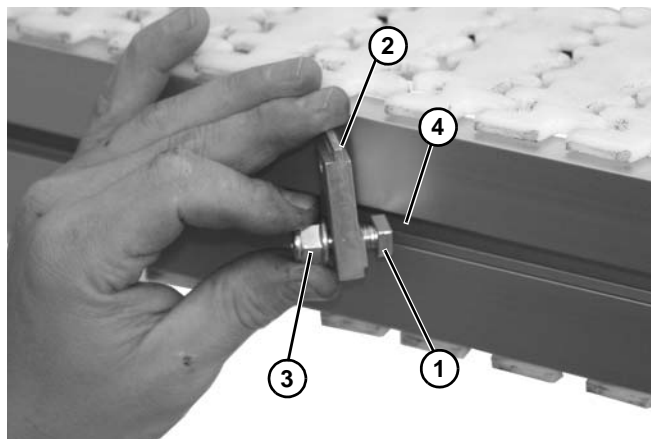

Figure 75
1. Install stud (Figure 75, item 1) onto retaining clip (Figure 75, item 2) with nut (Figure 75, item 3).
2. Install stud (Figure 75, item 1) into side rail channel (Figure 75, item 4). The end clips should be no greater than 12" from end of the conveyor.